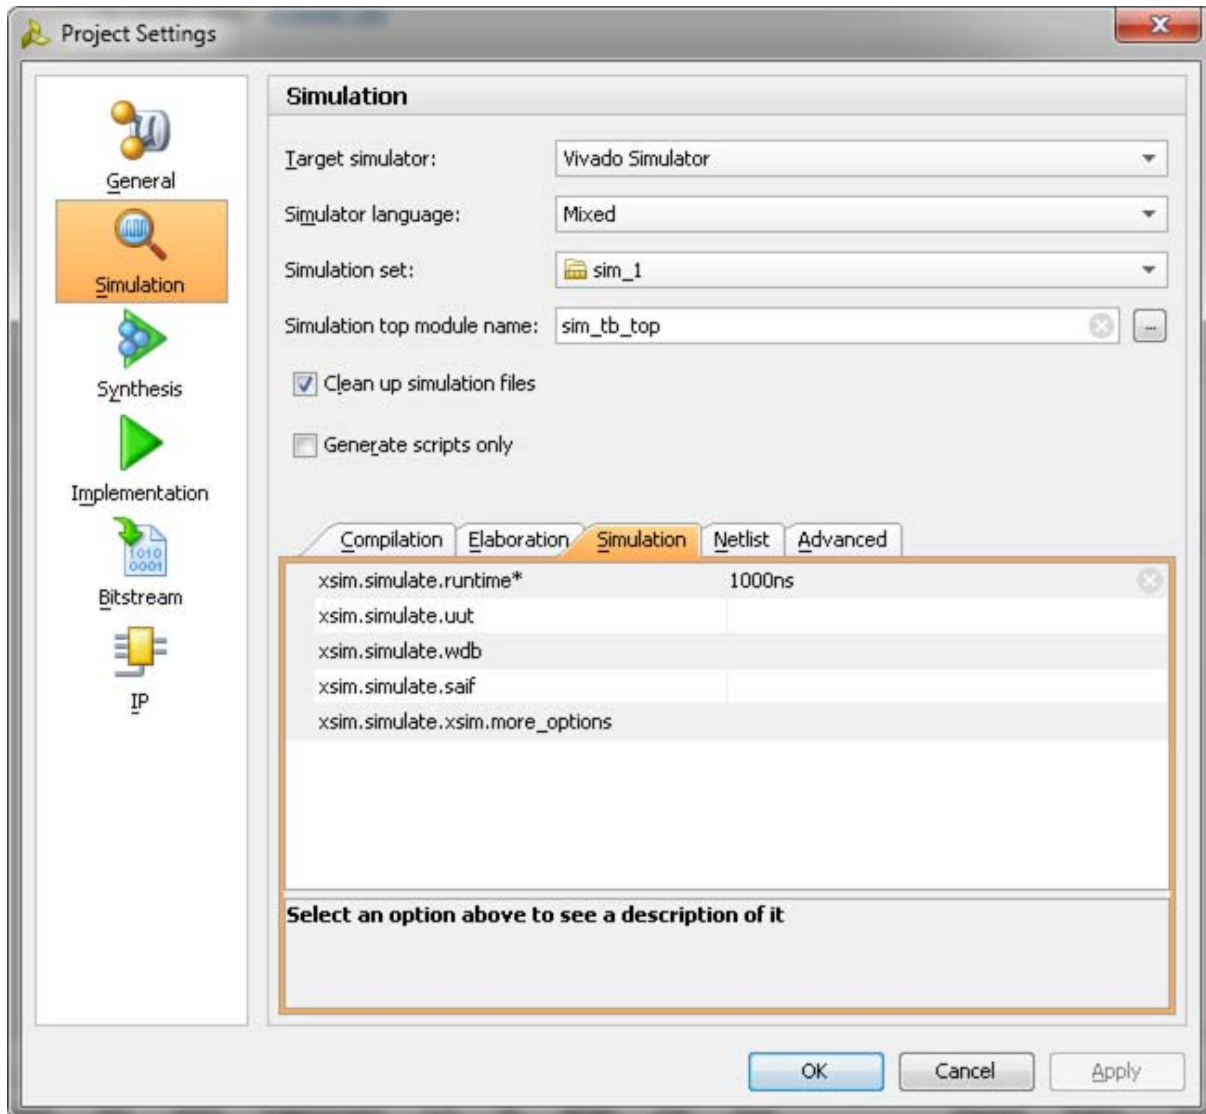

Figure 2-50: Simulation with Vivado Simulator
1. In the **Open IP Example Design** Vivado project, under **Flow Navigator**, select **Simulation Settings** (Figure 2-50).
2. Under the **Simulation** tab as shown in Figure 2-50, set the `xsim.simulate.runtime` as 1 ms (there are simulation RTL directives which stop the simulation after certain period of time, which is less than 1 ms). Apply the settings and select **OK**.
- b. Under the **Simulation** tab, set the `modelsim.simulate.runtime` to 1 ms (there are simulation RTL directives which stop the simulation after certain period of time, which is less than 1 ms), set `modelsim.simulate.vsim.more_options` to `-novopt` as shown in Figure 2-50.